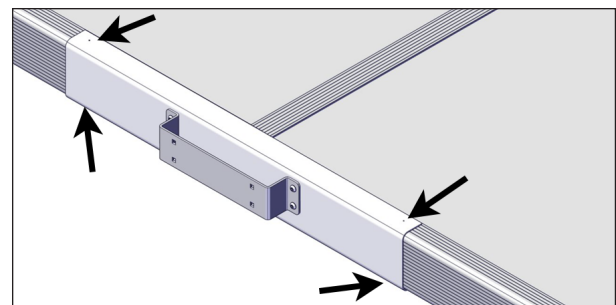
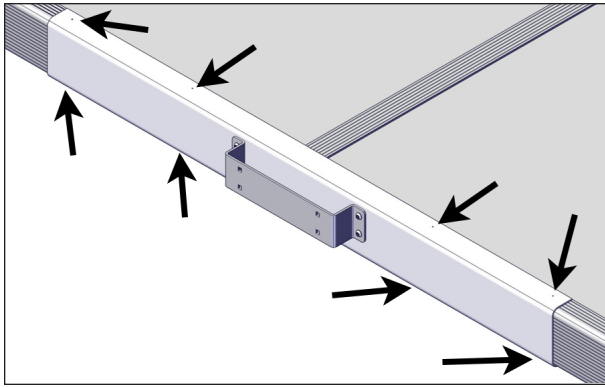

FIGURE 54: LOCATION OF THE DRILLING HOLES (4) IN THE SHORT SUPPORT BRACKET
FIGURE 55: LOCATION OF THE DRILLING HOLES (8) IN THE LONG SUPPORT BRACKET
- Next steps show how to drill holes to install the final screws on the support brackets. There are 4 holes to drill in the short support bracket (Figure 54) and 8 in the long support bracket (Figure 55).